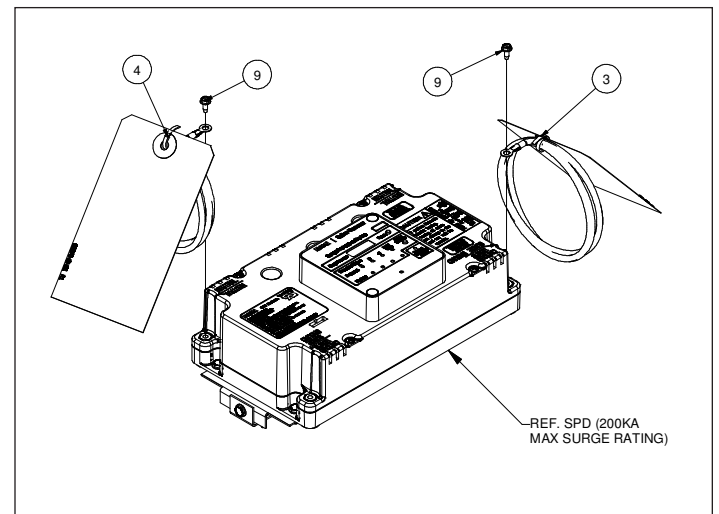

Figure 8. Neutral and Ground Wires.
- Locate the neutral assembly in the panelboard. Refer to Figure 8 and install the neutral wire (Item 4 - gray) to the side of the SPD closest to the neutral bar using the Item 9 screw and torque³.
9. Locate the ground assembly in the panelboard. Refer to Figure 8 and install the ground wire (Item 3 - green) to the side of the SPD closest to the ground bar using the Item 9 screw and torque³.